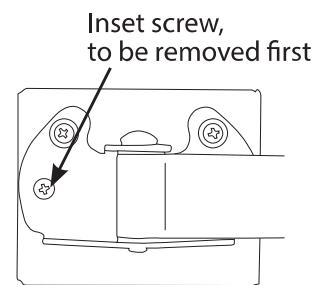

Fig 5
- a. To adjust the horizontal angle (roll) of the display, use the screws found on the back side of Wall Arm Assembly Mounting Head. First remove the inset Philips head screw on the left of the mount arm (Fig 5). Next, slightly loosen the top two screws then firmly hold opposite corners of the display and gently turn it into the desired position. When level, re-tighten top screws to lock in the position.